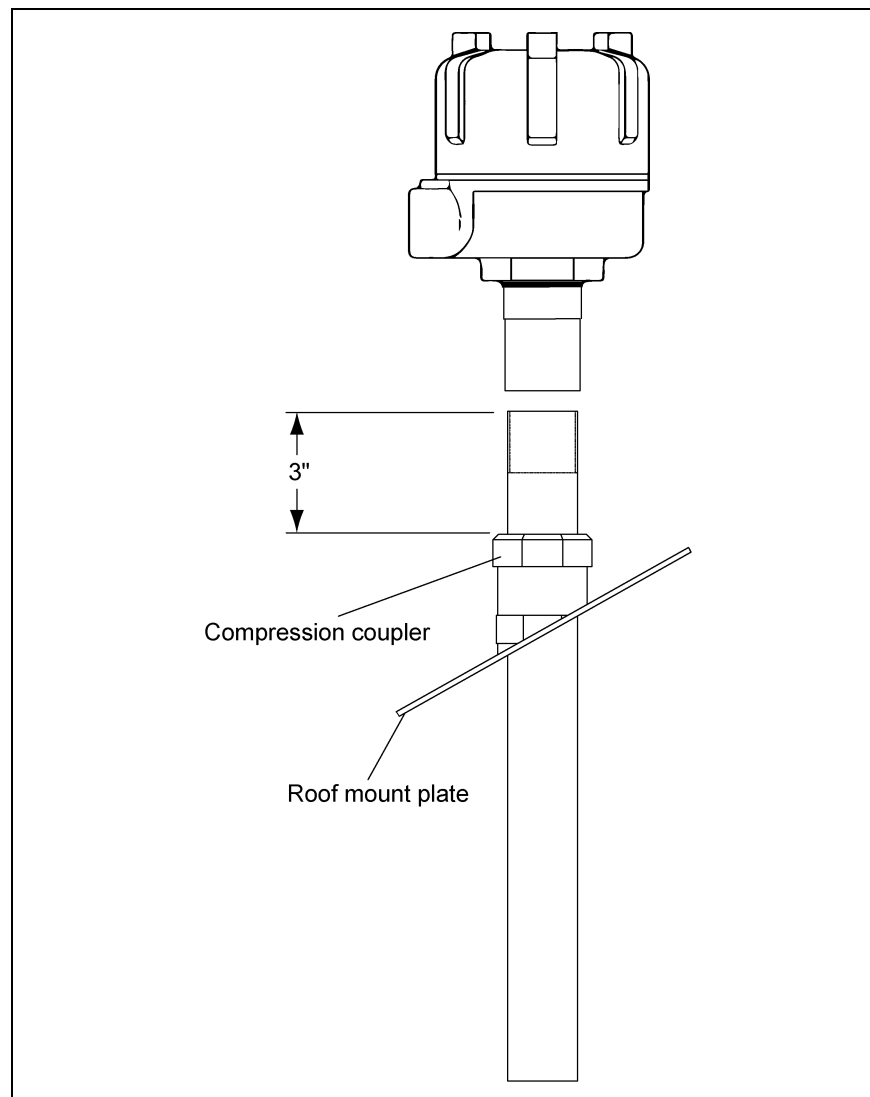

Figure 3V
4. Insert 1-1/4" pipe through adjustable roof mount weldment. Leave 1-1/4" pipe sticking out the top of the weldment 3" as shown in Figure 3V.